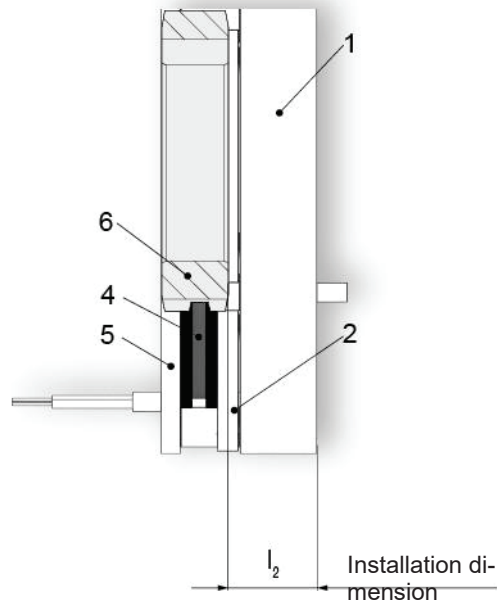

Fig. 3
- ☐ Check installation dimension l_2 as per Chapter 5.2.5 and Figure 3.
1. Mount the hub (6) onto the shaft with inserted key, bring it into the correct position as per installation dimension l_2 in Chapter 5.2.5 (Figure 3) and secure it axially.
3. Position the brake with the coil carrier side (1) first onto the motor flange. Please observe the correct position of the tapped holes and strands.